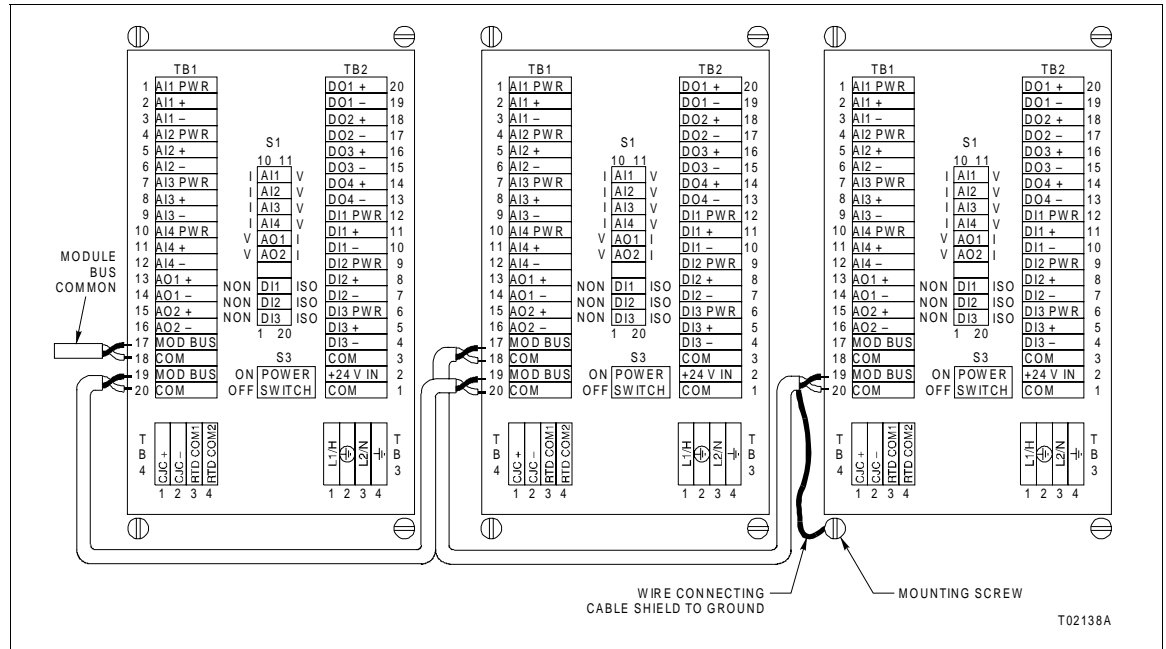

Figure 2-16. Peer-to-Peer Communications Wiring Connections
5. Connect multiple Type SLC controllers via the module bus connections using Figure 2-16 as a guideline for terminal block assignments. Type CBE01 Module Bus Extenders must be used if the module bus length is more than 10 meters (32.8 feet) or where ground potentials cannot be avoided. Total maximum module bus distance with the Type CBE01 extender is 610 meters (2,000 feet). Refer to Figures 1-4, 1-5 and 1-6 for location of the module bus extenders in the communication loop.
NOTE: A power switch, S3 (Fig. 2-16), is located on the termination board to allow the external power supply (AC or DC) to be disconnected from the controller without removing the power supply wiring.